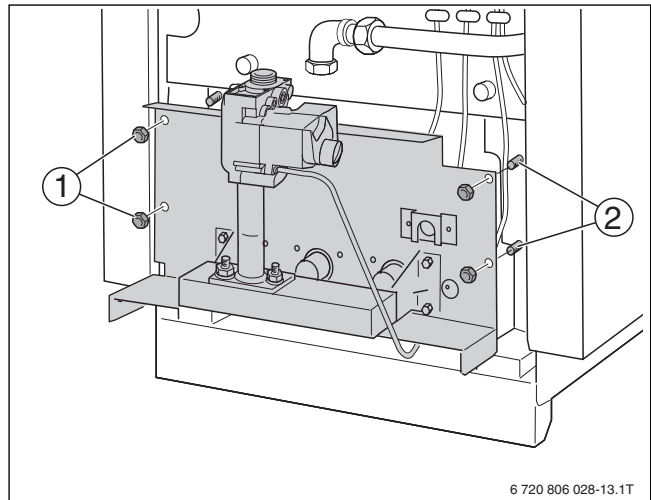

Fig. 32 Removing the burner
- ▶ Loosen retaining nuts (→ Fig. 32 [1]) on the burner shield.